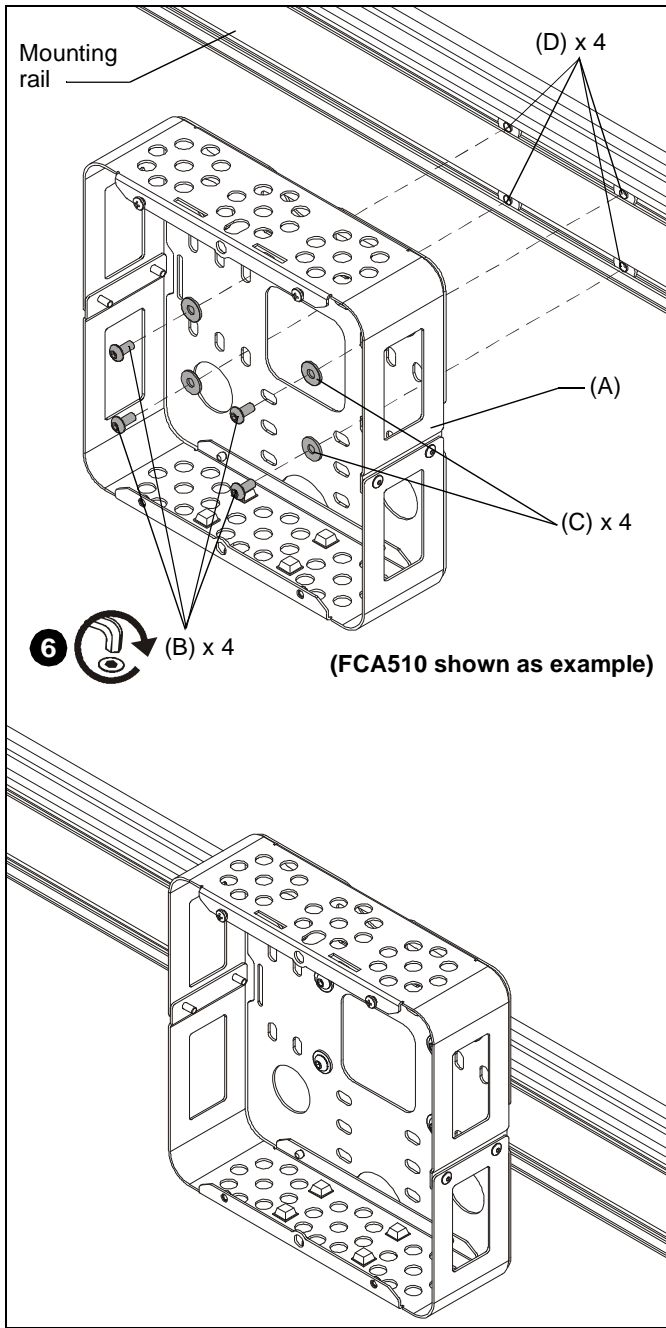

Figure 5
- Attach FCA510/FCA515 (A) to T-slot nuts (D) using four 5/16-18 x 1/2" buttonhead screws (B) and four 5/16" flat washers (C) into installed T-slot nuts (D). (See Figure 5)